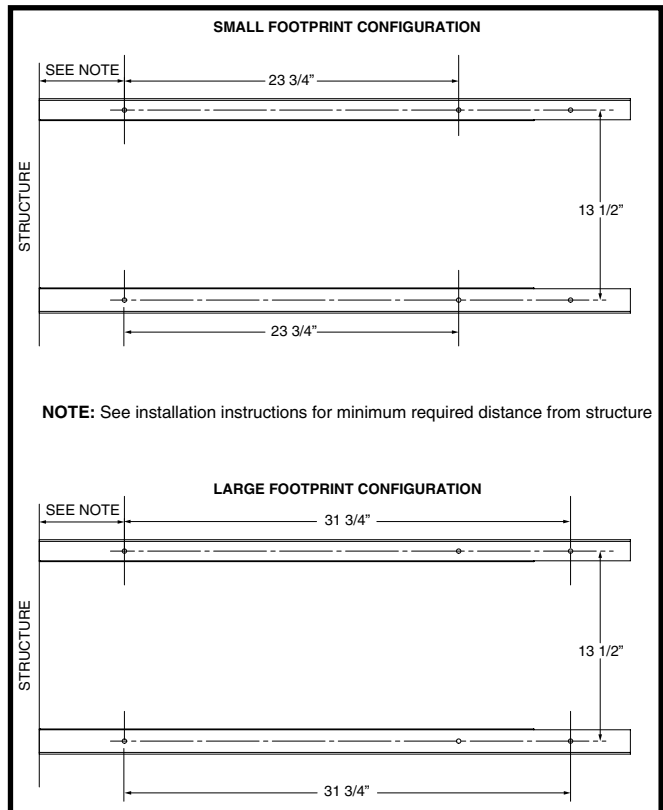

Figure 1. Bracket Hole Locations
1. Drill two holes per cantilever mounting bracket at the spacing as shown in Figure 1. **NOTE:** The spacing for these holes are different for large footprint split systems versus small footprint split systems. To determine footprint size see Table 2.